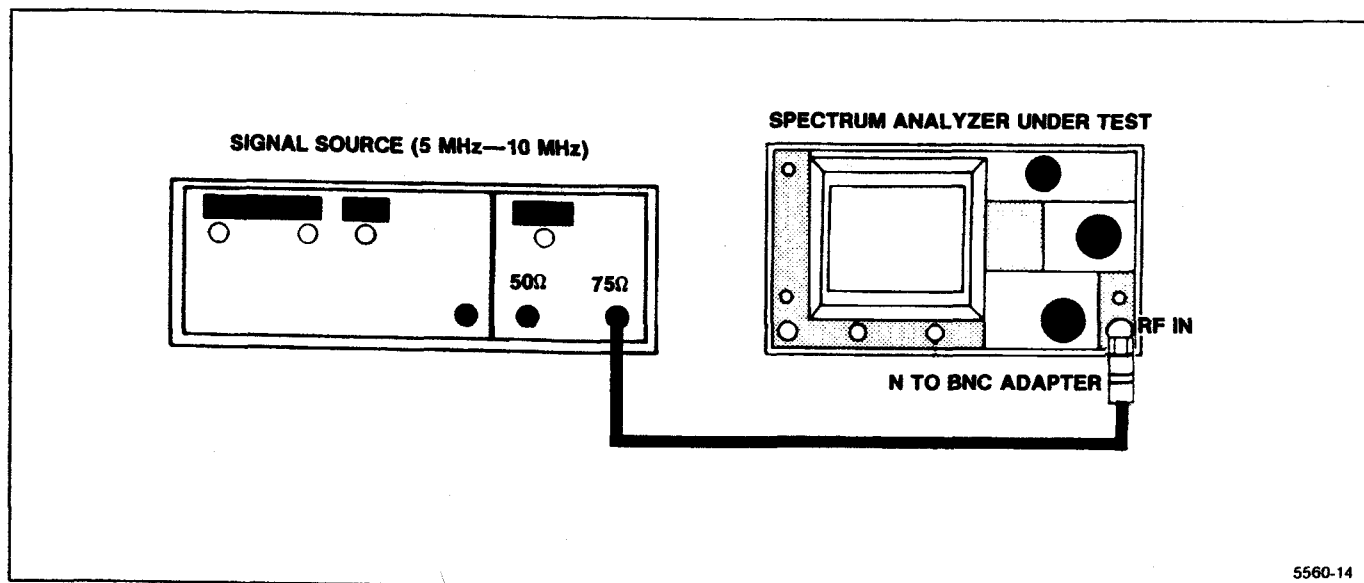

Figure 4-25. Equipment setup for checking Option 07 frequency response from 5 MHz to 10 MHz.
g. Reconnect the test equipment as shown in Figure 4-25. Reset CENTER FREQUENCY to 10 MHz.